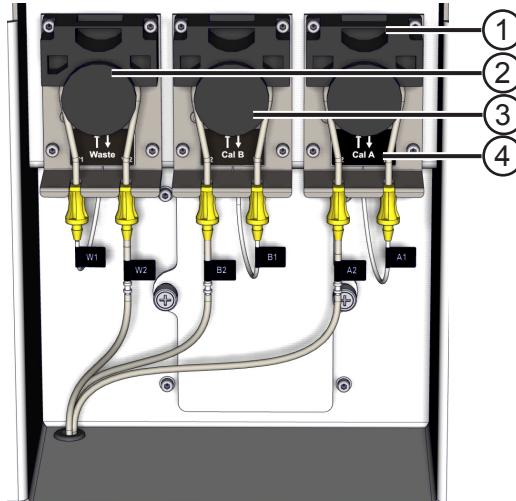

Figure 93 Connecting the peristaltic pump tubes
Insert a tube into each peristaltic pump. To insert the tube into head of the peristaltic pump release the pressure on the head by pulling the clamp (1) upward, see Figure 93.